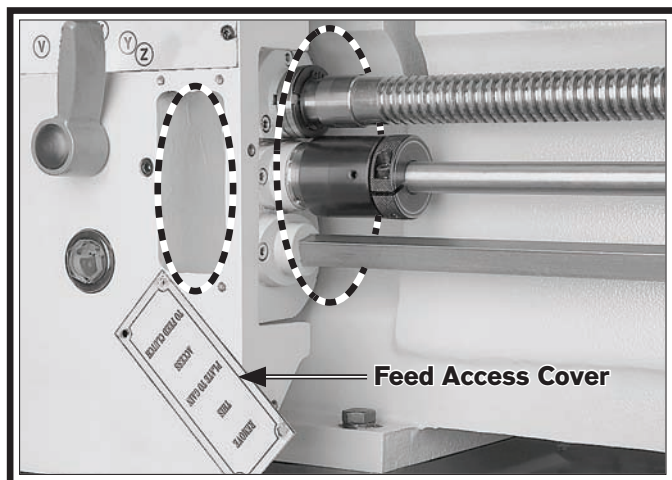

Figure 133. Feed access covers removed.
2. Remove the front and side feed access covers, as shown in **Figure 133**.